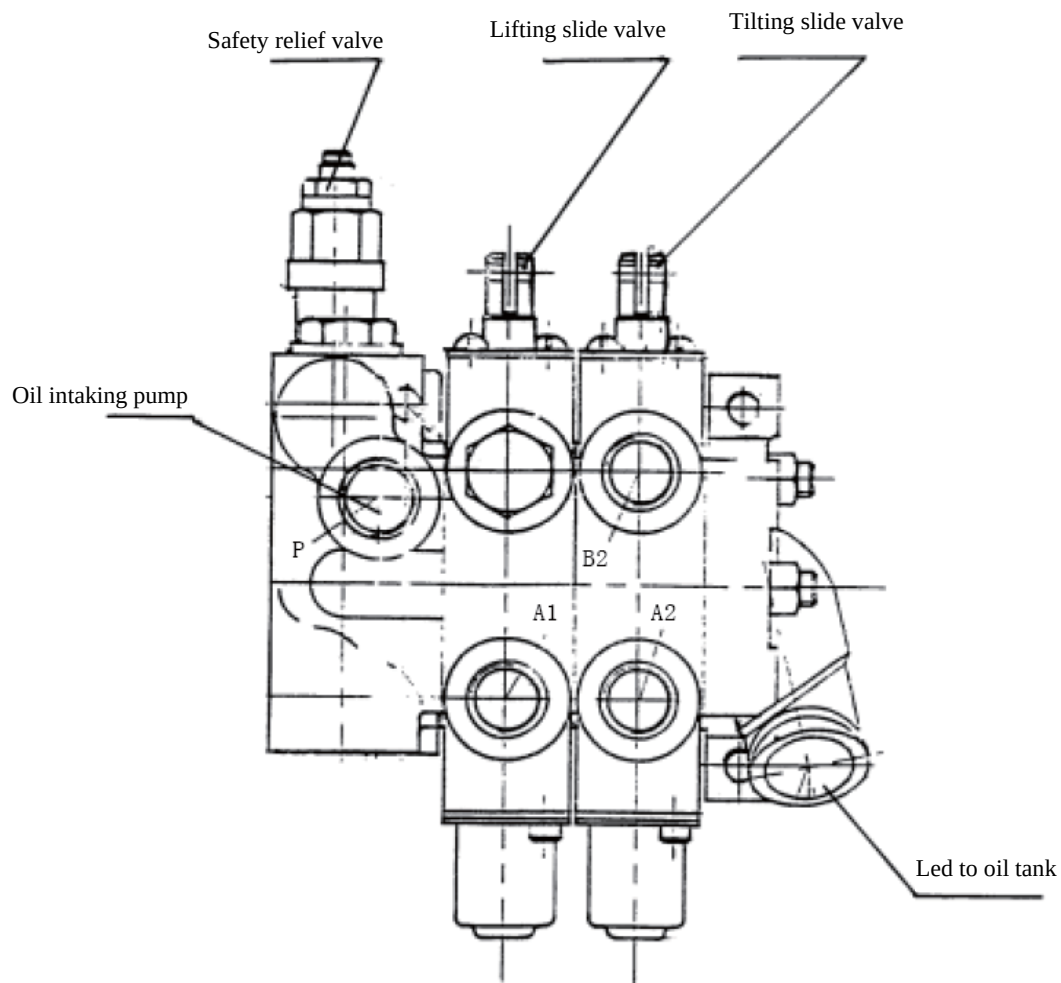

Fig.4-13 Profile drawing of multi-way valve
4.4.2 Multi-way valve (Fig.4-13)
When adjusting according to the direction indicated by the arrow in Fig.4-13 (i.e. clockwise facing the pressure adjusting nut), the pressure increases, otherwise the pressure decreases. The pressure of master safety valve shall be adjusted by use of the hydraulic pressure gauge. The pressure of steering gear is regulated through the adjustment of steering gear and the pressure of safety valve regulated through the adjustment of nut.